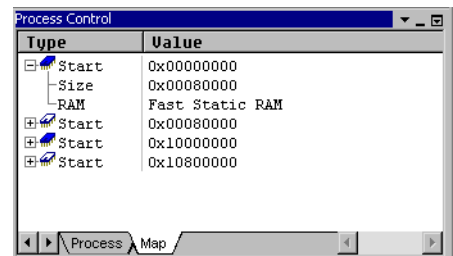

Figure 3-34 New memory block in the Map tab
13. Select **View** → **Pane Views** → **Memory Map** to view the **Map** tab, shown in Figure 3-34.